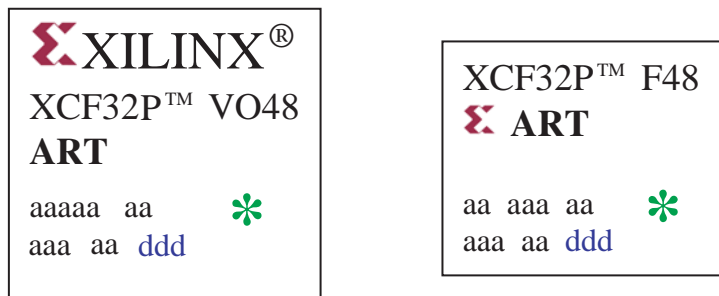

Figure 1: Left, TSOP-48 (VO48) Package; right, FBGA-48 (FS48) Package
2. Xilinx implemented a test program to ensure the devices meet the Power on Reset Activation specification. Order parts that have been screened. Screened parts will have an asterisk mark (“*”) on the top side (see Figure 1, above). For ordering instructions, please contact your Xilinx Sales Representative.